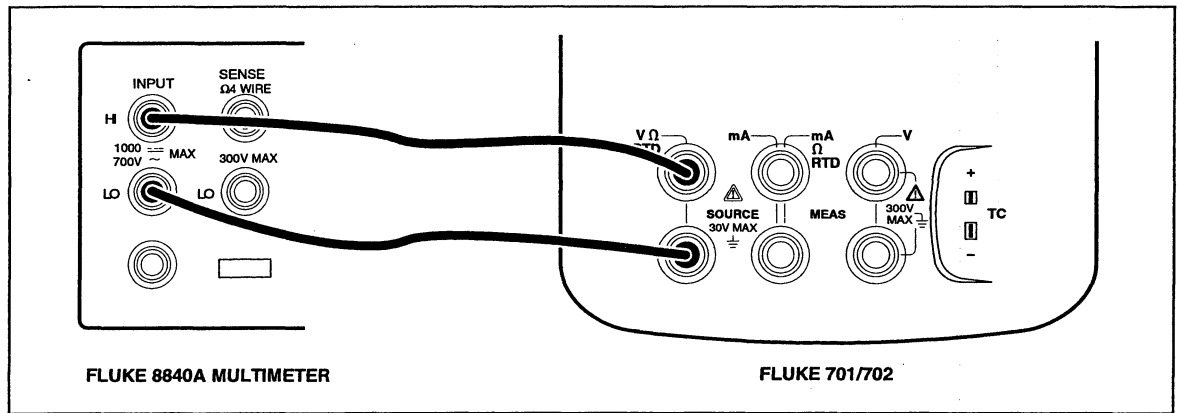

Figure 3-5. DC Volts Source Verification Connections
1. Connect the UUT to the DMM as shown in Figure 3-5. You can use either the Fluke 8840A or HP3458A.